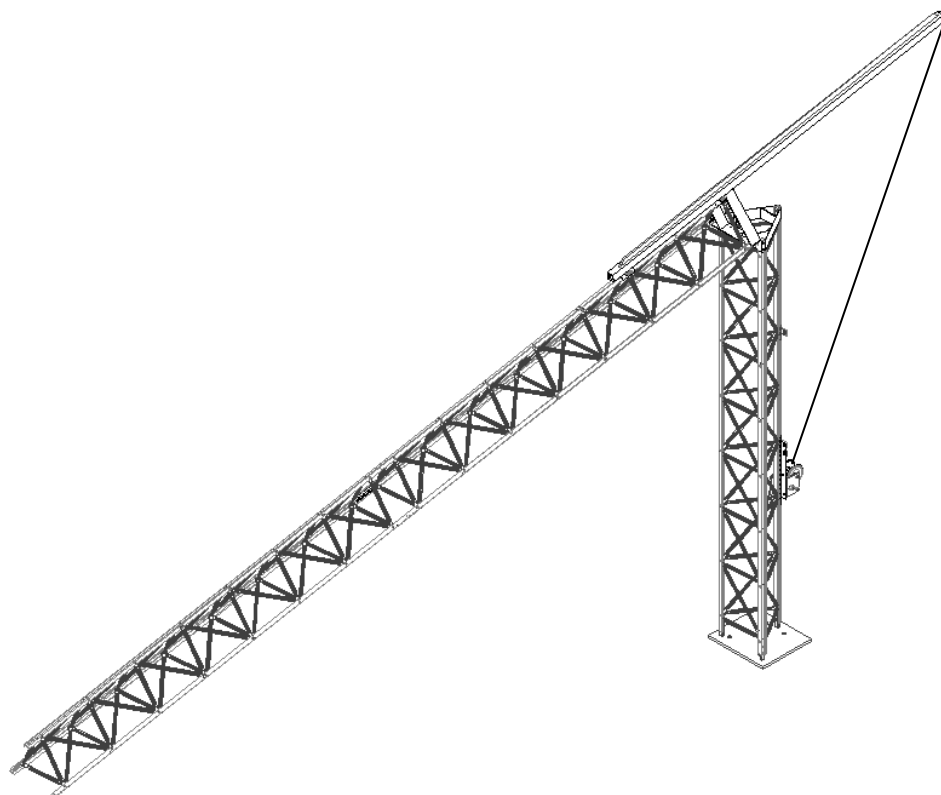

Figure 8 – Completed Tower (Folded Over)
11. The top tower section (item 4) can be joined with the middle tower section using the 6" hex joiner bars (item 5) and 7/16" x 2" hex bolts and hardware (items 26, 29, 30). Insert the hex joiner bars into the top of the middle tower section with the 7/16" x 2" hex bolts and hardware (items 26, 29, 30). Do not tighten at this point.
12. Guide the top tower section to mate with the 6" hex joiner bars (item 5) using the 7/16" x 2" hex bolts and hardware (items 26, 29, 30). Tighten all hardware. See Figure 8.
13. At this point the tower functionality must be tested before attaching equipment to the tower. Raise the tower with use of the winch and cable. The top and middle tower sections should be raised and lowered with ease. Once vertical, ensure that the lever pole mounting tabs continue to be aligned with the brackets of the lower section (item 8, 11, 14), and that the pole is secured to the bottom tower section with 3/8" x 1 1/4" hex bolts and hardware (items 23, 24, 25).